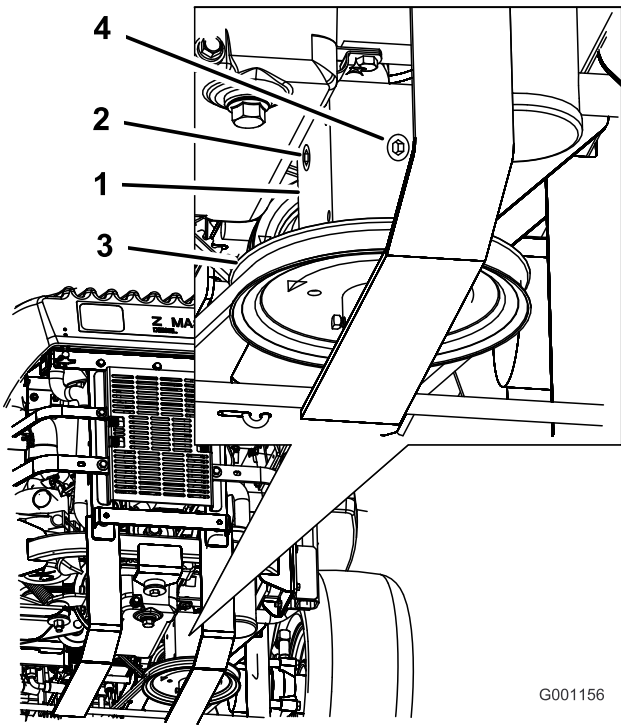

Figure 55
4. Remove the side or rear plug on the gear box. (Figure 55).